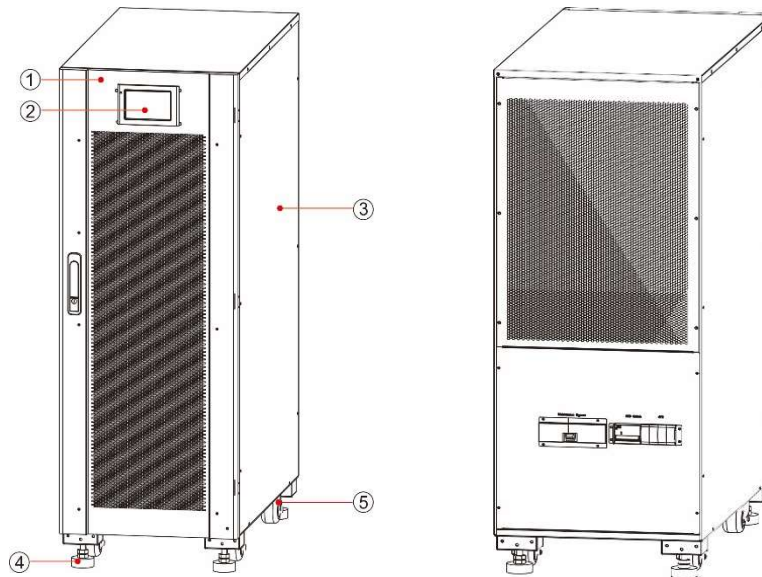

Fig. 2-10 Appearance of 80/100/120 kVA UPS
- The appearance of 80 kVA/120 kVA UPS is shown in Fig 2-10. The figure of 120 kVA UPS is used as an example, and an 80 kVA UPS is narrower. 100 kVA and 120 kVA have the same rack.